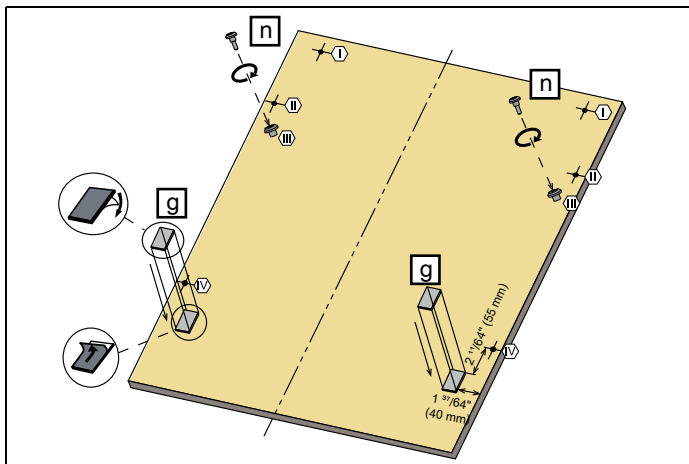

Fig. 25
- 3) As shown in Fig. 25 , Screws $\varnothing 5/32'' \times 27/32''$ (4mm x 21.5mm) are installed in positions III.
- 4) As shown in Fig. 25 , Wooden Door Fixing Strips are installed in the positions shown in the figure.